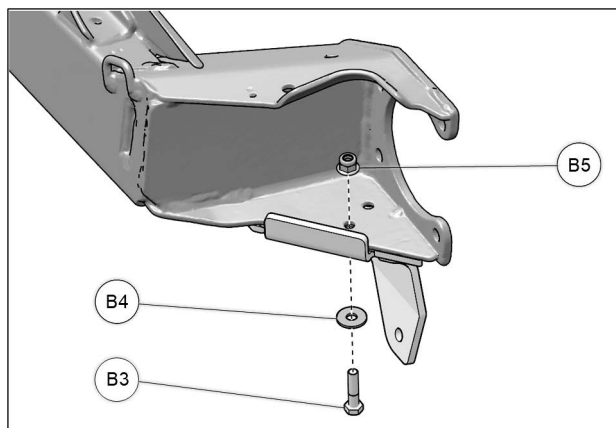

Fig. 5
5. From the bottom, insert a M8x35mm bolt (**B3**), along with washer (**B4**), at the position shown below, and secure anchor bracket with provided M8 nut (**B5**). Tighten to 33 Nm [24 lb•ft]. See Fig. 5